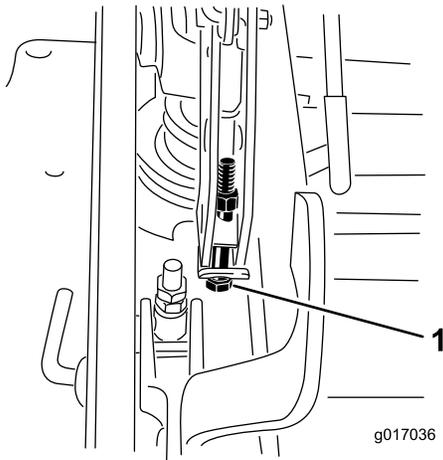

**Figure 110**
11. To adjust the single-point system, loosen the 2 bolts at the bottom of the height-of-cut plate (Figure 110).
13. Tighten the 2 bolts at the bottom of the height-of-cut plate (Figure 110).